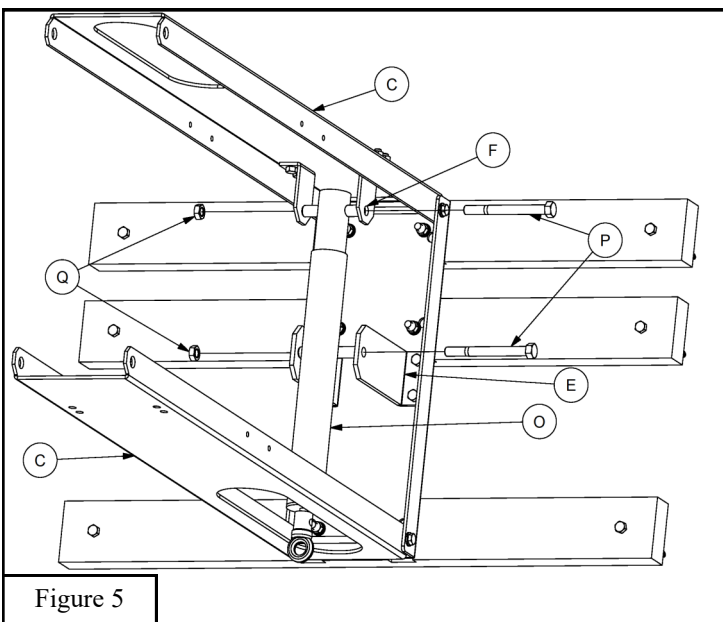

Figure 5
7. Install the *Crank* (O) to the *Pole Plate Brackets* (E) and the *Extension Channel Brackets* (F) previously installed in #3 above using $1/2" \times 5"$ *Hex Bolts* (P) and $1/2"$ *Thin Lock Nuts* (Q). Tighten the $3/8" \times 1"$ *Hex Bolts* (J) and $3/8"$ *Hex Nuts* (M) installed in #3 above. Tighten the $1/2" \times 5"$ *Hex Bolts* (P) and $1/2"$ *Thin Lock Nuts* (Q) then reverse $1/2$ turn to insure *Crank* (O) can move freely within the mounting brackets. See Figure 5.